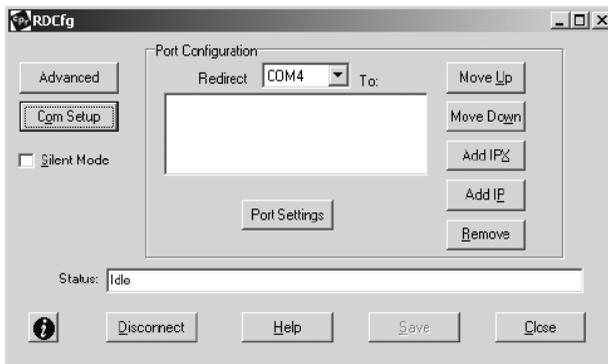

Figure 20: Com Port Redirector Configuration Window
5. Click the **Start** button in the Windows Taskbar, point to **Programs**, point to **Lantronix Redirector**, and click **Configuration**. The Com Port Redirector Configuration window appears (see Figure 20).
7. Click all the logical ports to which the PC will be redirected. A checkmark appears next to each logical port selected. Each port selected will be available from the Redirect To drop-down list in the Com Port Redirector Configuration window (see Figure 20).
1. Click the **Start** button in the Windows Taskbar, point to **Programs**, point to **Lantronix Redirector**, and click **Configuration**. The Com Port Redirector Configuration window appears (see Figure 20).
10. Click the **Save** button (see Figure 20).
11. Click the **Close** button (see Figure 20).